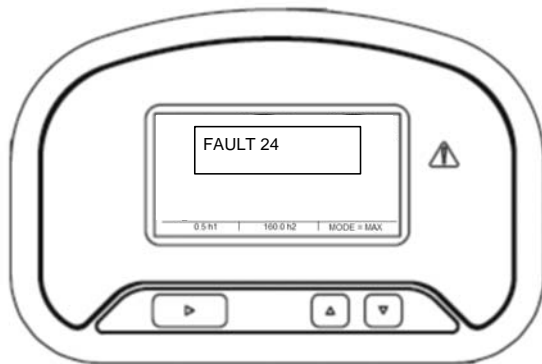

Figure 18: Display showing error code
- The number of the alarm is shown in the display, see Figure 18.